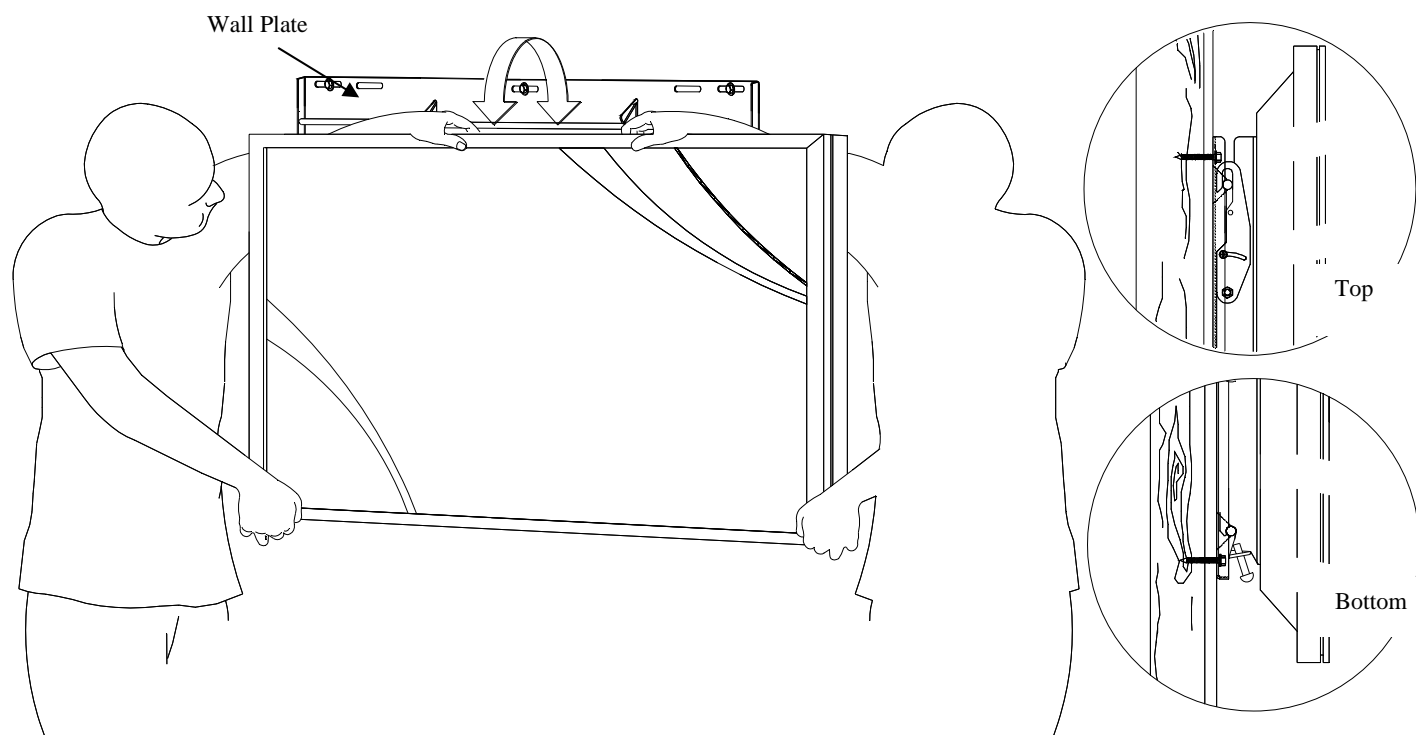

Figure 16
1. Raise the flat panel with the mounting brackets secured to the flat panel and insert the top hooks from each bracket to the rod from the wall plates (Figure 16).